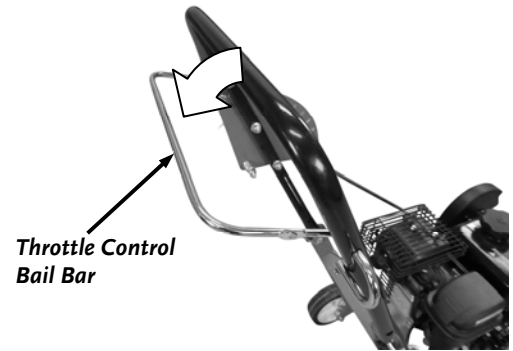

Figure 13
1. Release the Throttle Control Bail Bar to the idle position to stop the Engine (*Figure 13*).